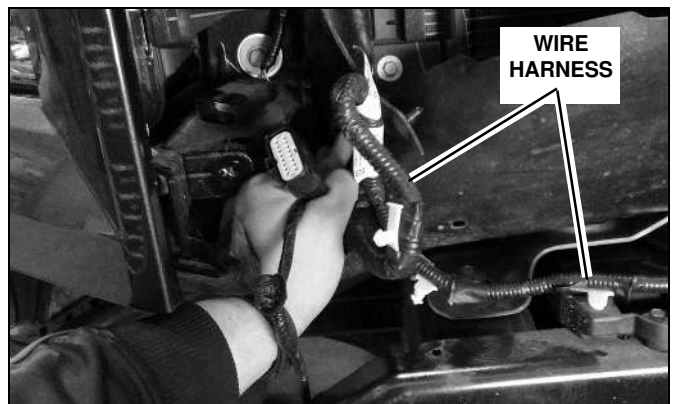

Figure 18
7. Disconnect all harness connections and dismantle any harness mounting fasteners that will prohibit the intercooler air dam from being removed. (See Figure 18)